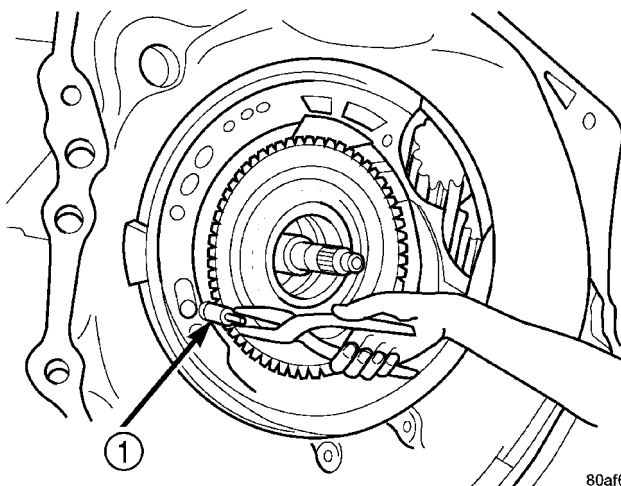

Fig. 145 Install Cooler Bypass Valve
(55) Install cooler bypass valve with o-ring end towards rear of case (Fig. 145).